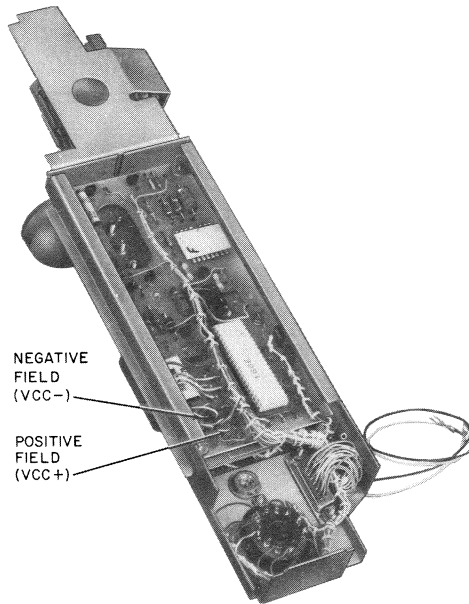

Fig. 5—32A Coin Chassis (Rear View)
**2.13** Setting of initial rate is done by inserting one or more leads into the *negative* field (VCC-) (Fig. 5). Six leads, terminated on back side of chassis are color coded and individually plug ended. Each lead represents a specified amount. These plug-ended leads are pressed on the tubular connectors to establish an initial rate setting.